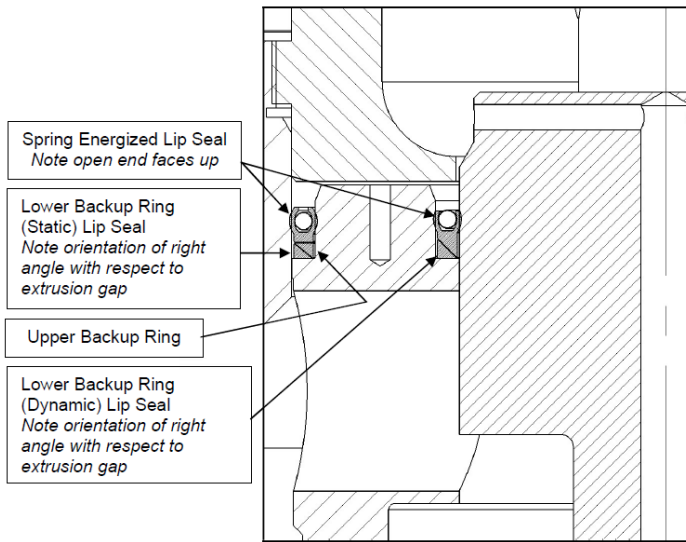

Figure 21: Dynamic and Static Lip Seal Orientation (Balanced)
4. Place the (Static) Lip Seal (B118) into the Liner (B106), in the orientation shown in Figure 21.
6. Place the (Dynamic) Lip Seal (B108) onto the Plug (B112), in the orientation and in the approximate position shown in Figure 21.